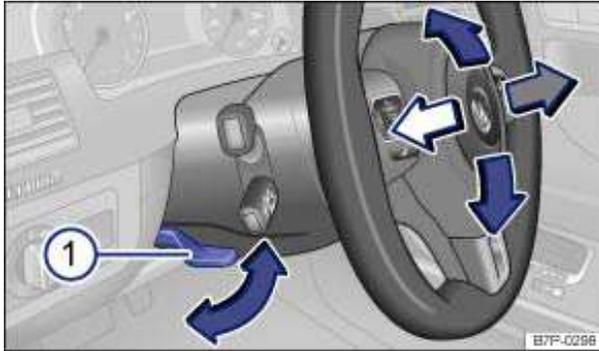

Fig. 49 Manual adjustment for the steering wheel position.
- Push down on the lever ⇒ fig. 49 \(1\).
- Always pull the lever ⇒ fig. 49 \(1\) firmly upward after adjusting the steering column so that the steering wheel does not change position suddenly while the vehicle is moving.